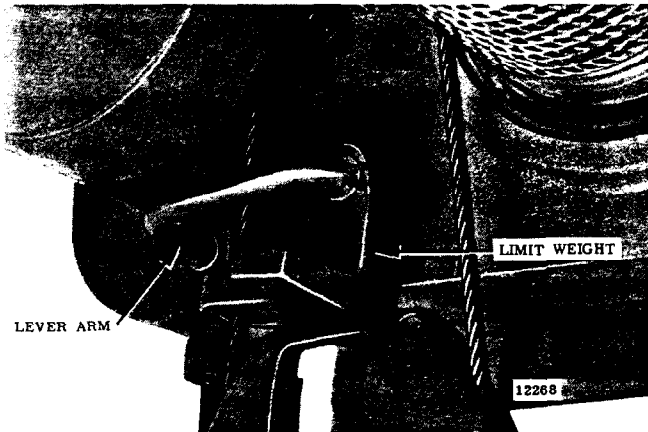
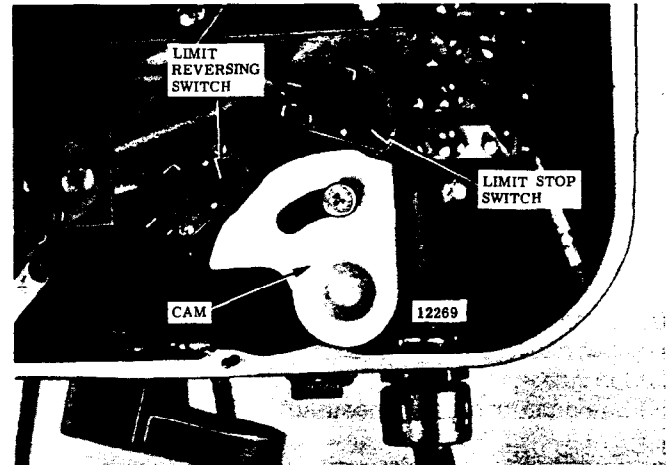

Figure 2-2. Limit Stop Mechanism being tripped by lower block.
Figure 2-3. View showing Limit Stop Switch and Reversing Switch arrangement.
c. Check Limit Switch Operation. A block operated upper limit stop (Fig. 2-2) is furnished as standard equipment. This limit stop is factory set to stop lower block in its high position and guard against over-travel and possible damage to hoist. No adjustment can be made. Limit switch operation should be tested when hoist is installed. Move hook to a low position by depressing push button marked "DOWN". Now depress button marked "UP" to raise hook. While hook is traveling upward, manually (or with an extension pole) actuate limit stop mechanism (Fig. 2-2). When limit stop weight is raised, "stop" switch is actuated first and then the "reversing" switch is actuated (Fig. 2-3). Stop switch stops hoists. Reversing switch lowers hook block in case of over-travel. If limit switch does not function in this manner, refer to trouble shooting chart Section VI for possible remedy.